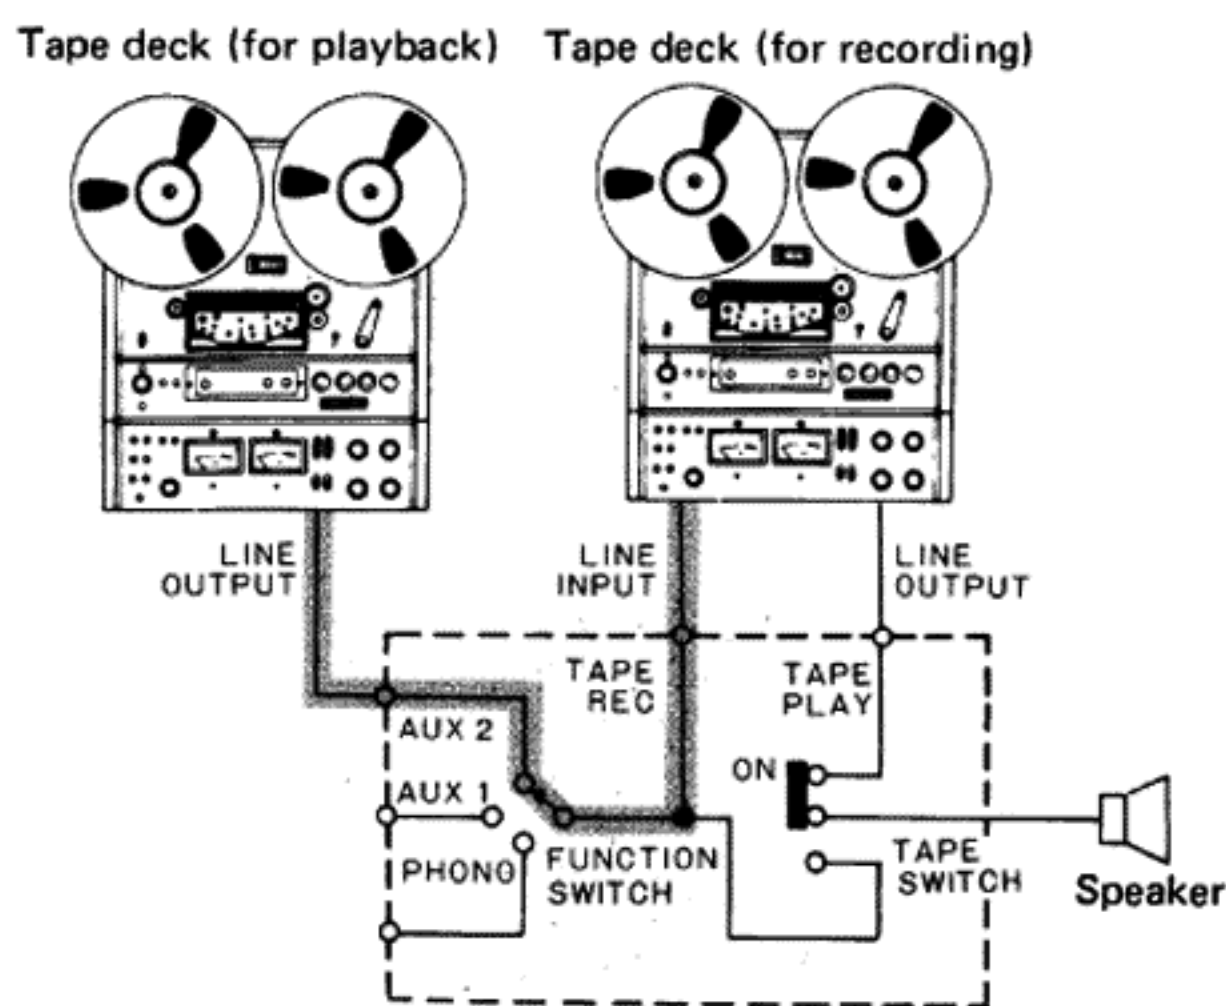

Fig. 9
If you have two tape decks, you can duplicate pre-recorded tapes or edit them (refer to Fig. 9). Simply connect the tape deck's LINE OUTPUT terminals to the C-21's AUX 1 (or AUX 2) terminals. You can make use of these applications to build up your own tape library by recording songs or pieces of music which you have pre-recorded from an FM broadcast onto a separate tape and by duplicating tapes from an open-reel deck onto cassette tapes, for example.
1. Connect the two tape decks as illustrated in Fig. 9.